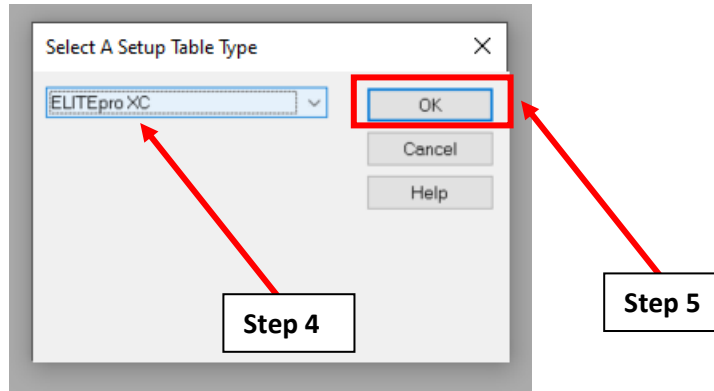

Figure A.3.3: Selection of a setup table type for the ELOG19 software.
4. The “Select A Setup Table Type” pop-up window will appear (Figure A.3.3) after completing step 3. Select the “ELITEproXC” option (Figure A.3.3) from the dropdown menu.
5. Click "OK" (Figure A.3.3).